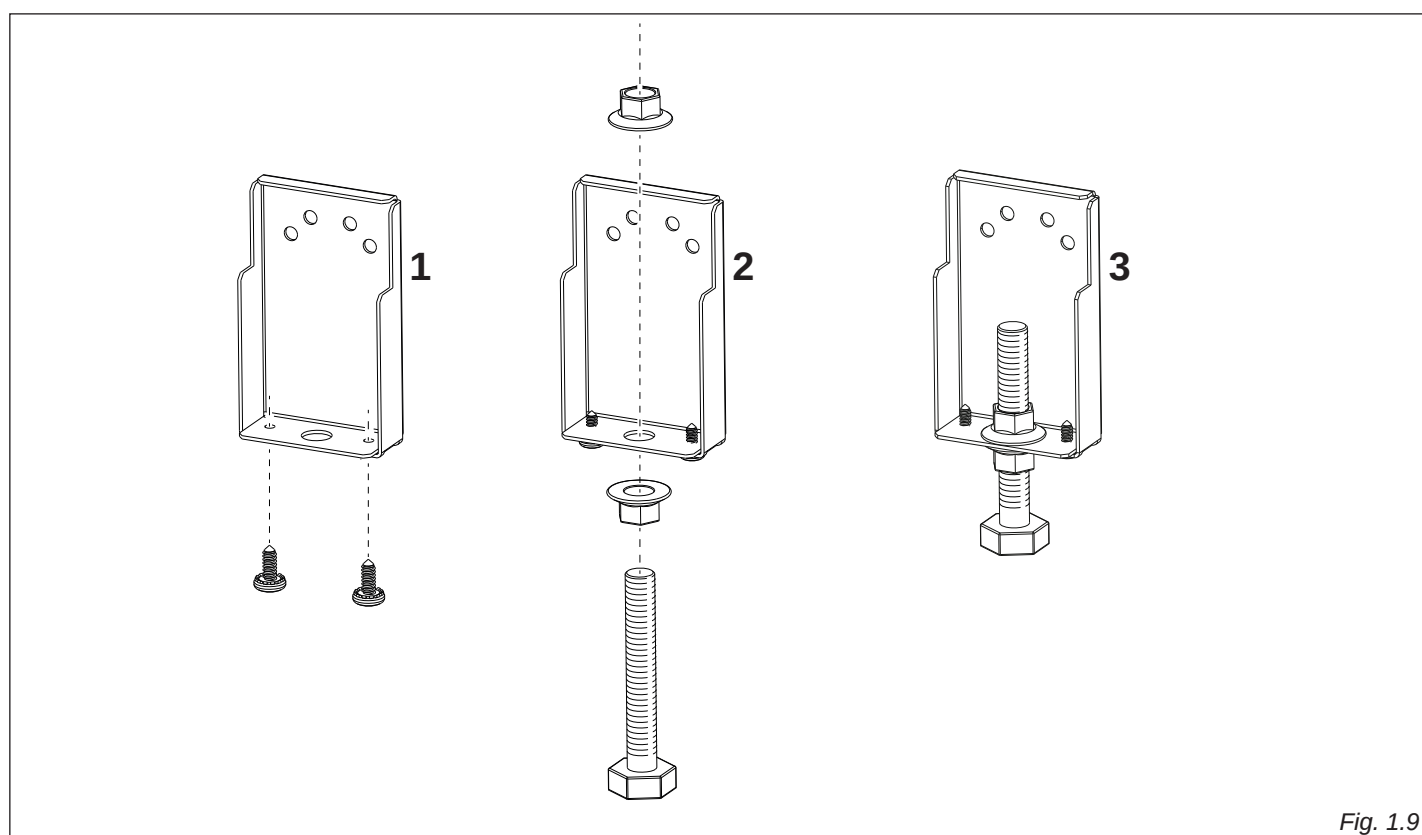

Fig. 1.9
The anti-tip bracket has two components (figs. 1.9, 1.11):
1. Fix the two supplied short screws to the left and right side of the adjustable bracket (fig. 1.9).
2. Thread the bolt through the adjustable bracket and fix in place using the two supplied nuts (fig. 1.9). Ensure the nuts are well tightened.